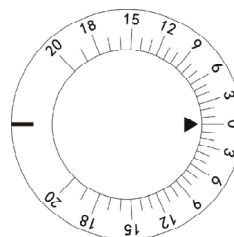
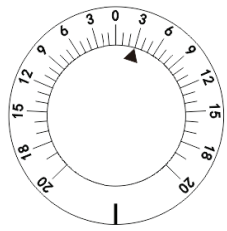
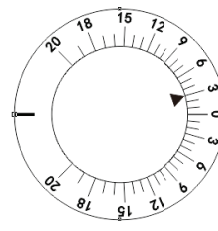

Fig.22
Fig.23
Fig.24
Turn rotary prism ⑫ by holding its base to set it on the examination aperture. Turn prism rotation knob ⑪ until the required prism power is set. What the black triangle arrow indicates is the current prism power. For example, prism power indicated in Fig.22 is 0, that in Fig.23 means base in 3Δ prism power, and that in Fig.24 means base up 3Δ prism power.